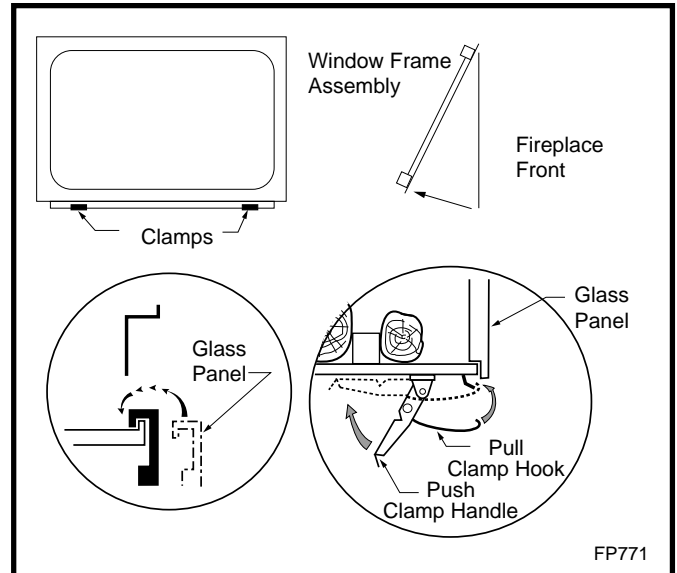

Fig. 46 Window frame assembly removal.
5. Release the two clamps along lower edge of the frame by pulling down on clamp handles. (Fig. 46)
Remove front glass. (Refer to "Window Frame Assembly Removal" Section, Fig. 46) Remove logs from packaging.